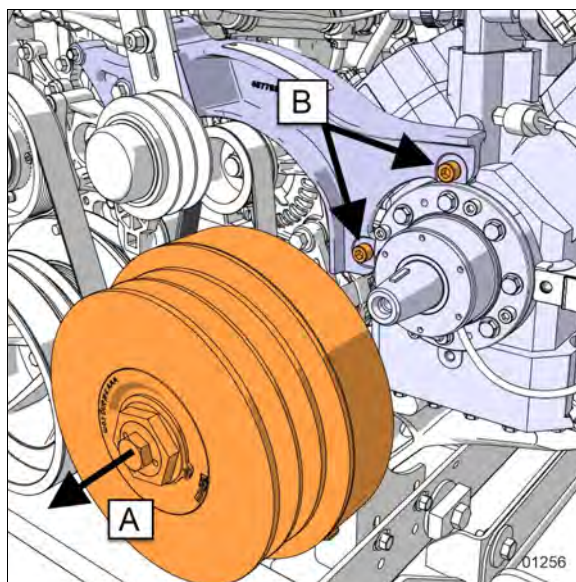

FIGURE 14: CLUTCH ASSEMBLY REMOVAL
9. Remove the A/C compressor clutch assembly (item A in Figure 14), refer to MI18-37 at the